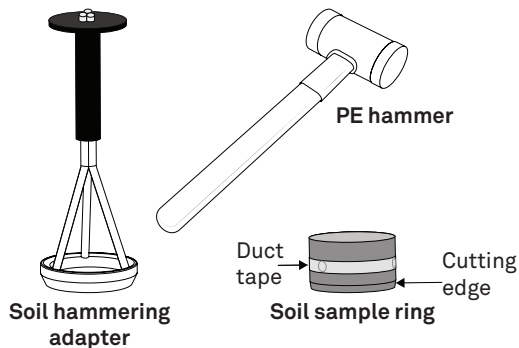

Figure 5 METER soil hammering adapter and hammer
- METER soil sample ring (Figure 5)
- METER hammering adapter (Figure 5)
- PE hammer (Figure 5)